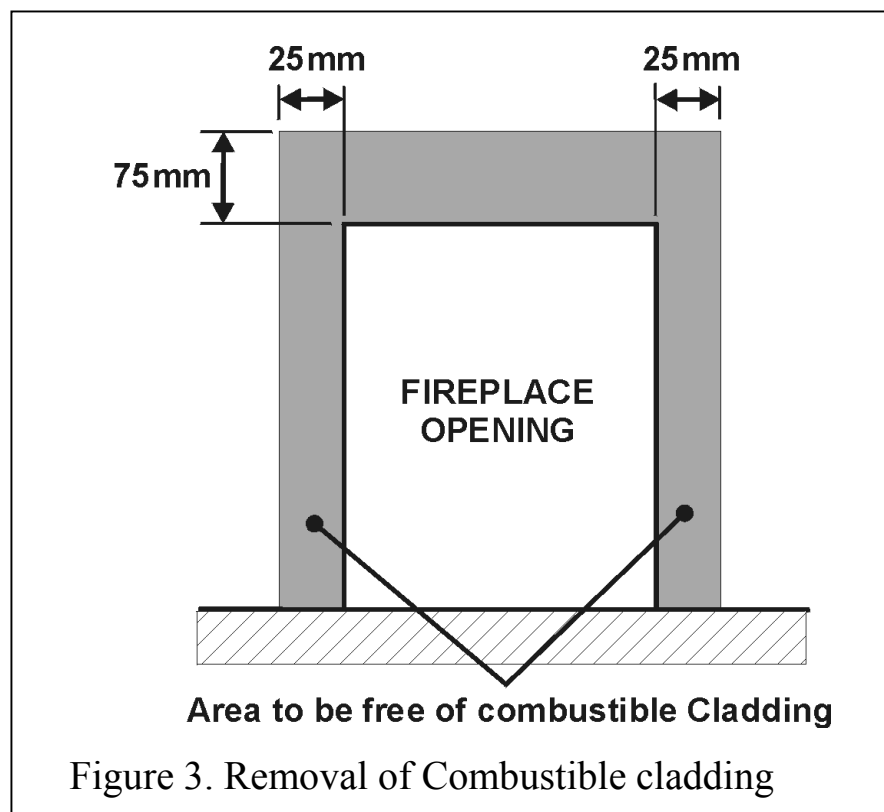

Figure 3. Removal of Combustible cladding
4.13 If the appliance is to be fitted against a wall with combustible cladding, the cladding must be removed from the area shown in figure 3